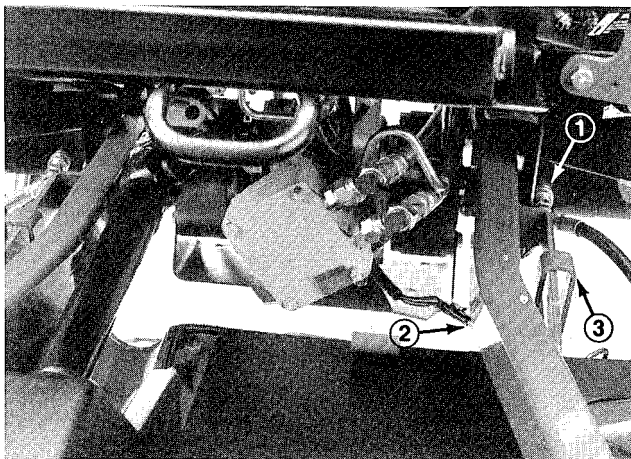

Figure 59
2. Disconnect (3) hydraulic lines (quick couplers) and wire harness at rear of deck (Fig. 59).
3. Remove hairpin cotters and H.O.C. pins securing rear deck straps to H.O.C. brackets on deck (Fig. 59).